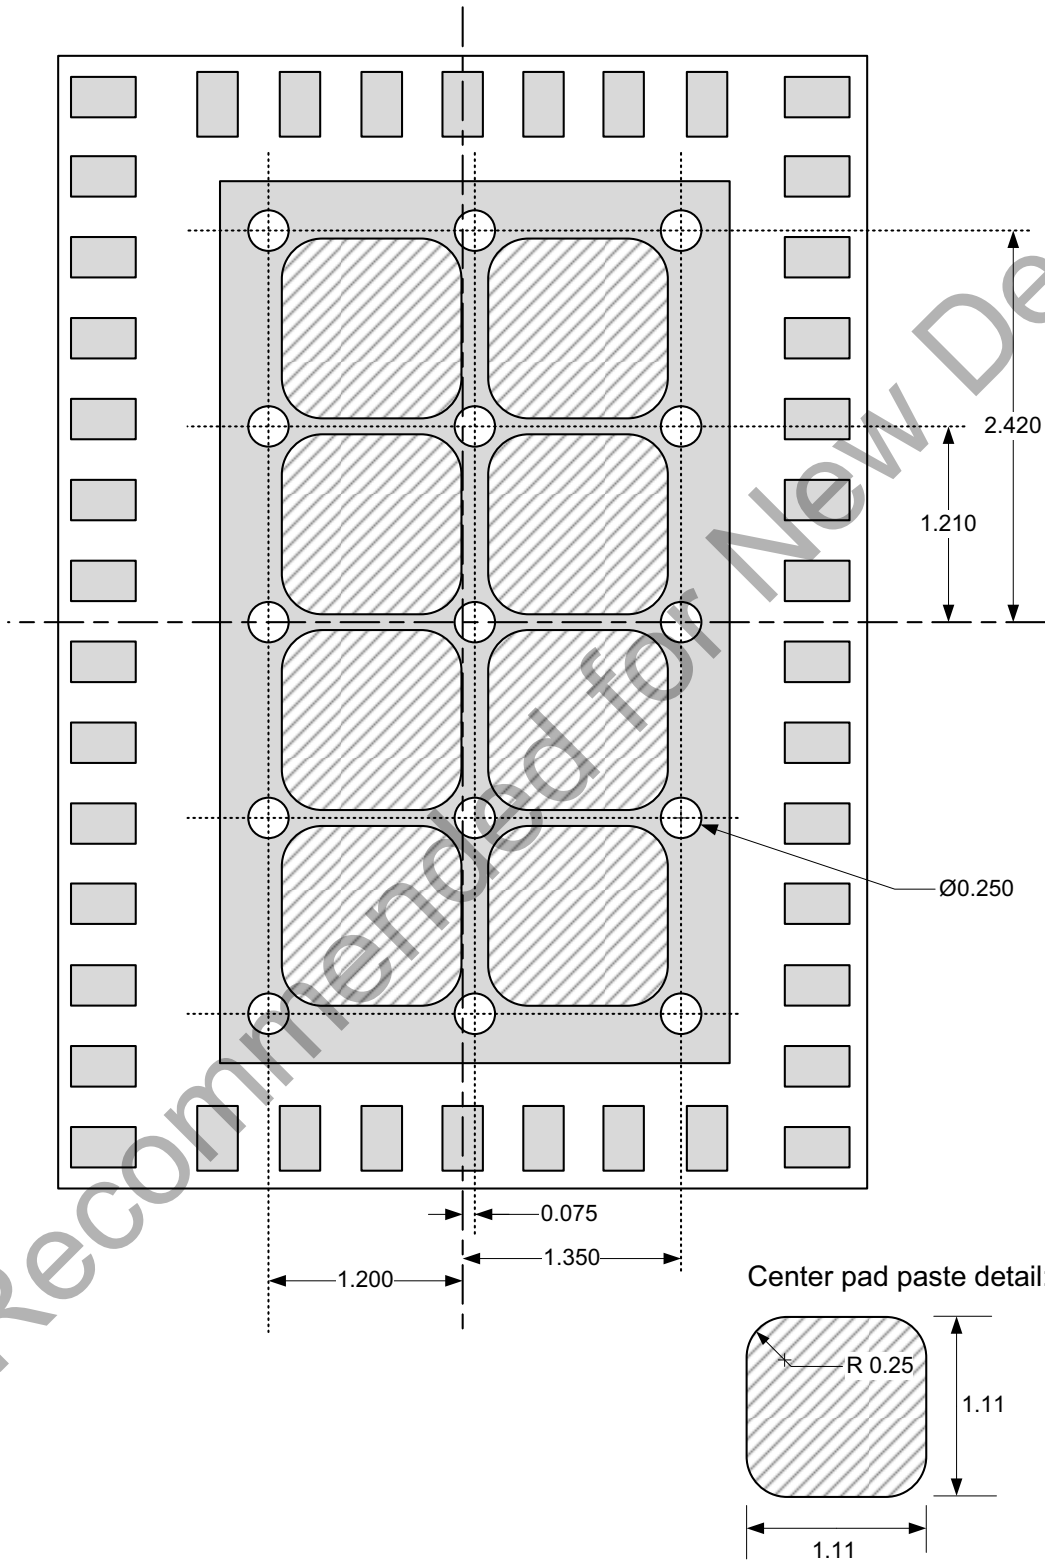

Figure 3.5. LGA-42 PCB Stencil and Via Placement
- Place vias in E-pad as shown in Figure 3.5.
- Place ground pad openings as shown in Figure 3.5.